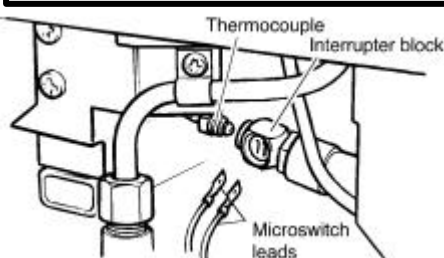

Fig. 37 Thermocouple interrupter block
13.2.3 Loosen the thermocouple nut to free the microswitch leads and pull the leads clear of the thermocouple interrupter block (see figure 37).